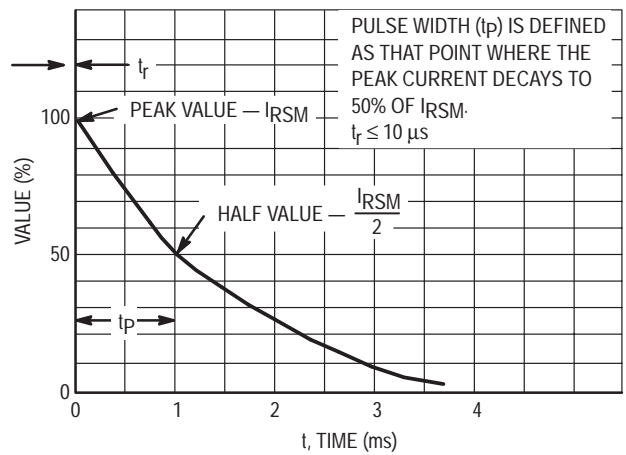
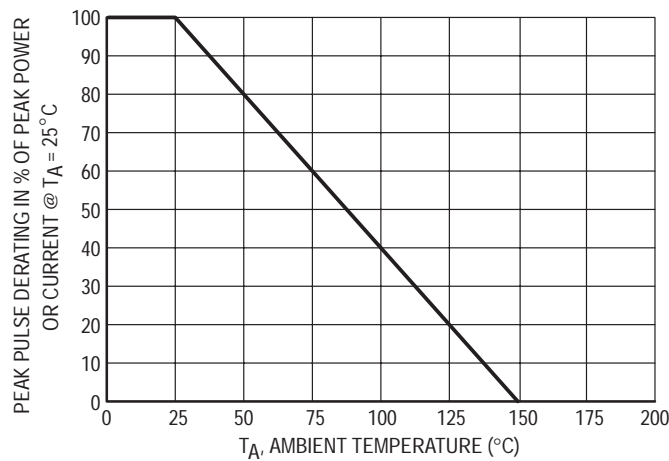

Figure 5. Pulse Waveform
Figure 6. Pulse Derating Curve
- Peak Power — 40 Watts @ 1.0 ms (Bidirectional), per Figure 5 Waveform
NOTES: 1. Non-repetitive current pulse per Figure 5 and derate above $T_A = 25^\circ\text{C}$ per Figure 6.
(4) V_{BR} measured at pulse test current I_T at an ambient temperature of 25°C .
(5) Surge current waveform per Figure 5 and derate per Figure 6.